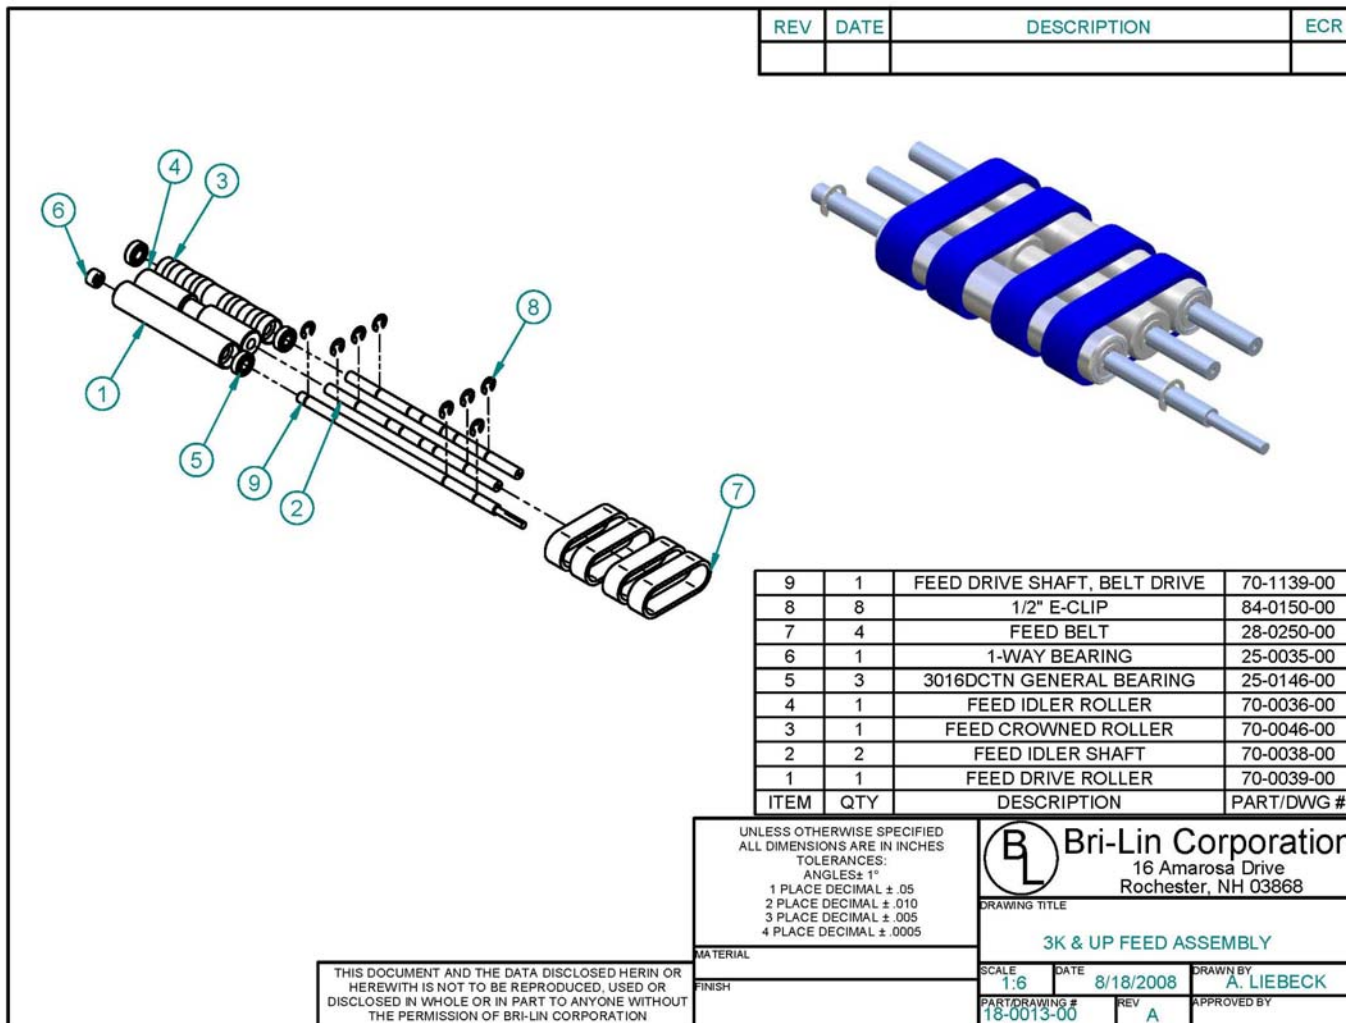

Figure 11: Feed Assembly
1. Remove the **E-clips** from the **drive shaft** (4x). (See Figure 11)